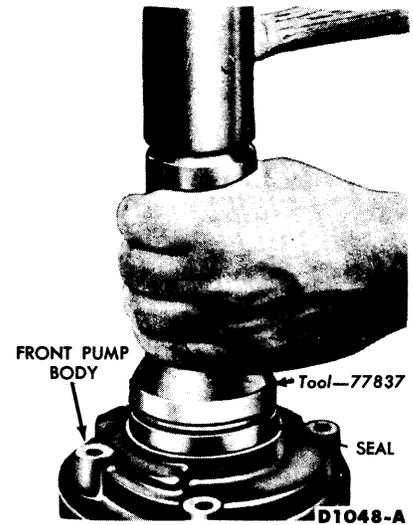

FIG. 18—Front Seal Installation
13. Coat the outer diameter of a new seal with FoMoCo Sealing Compound, or its equivalent, then position the seal in the pump body. Drive the seal into the pump body with the tool shown in Fig. 18, until it is firmly seated in the body.